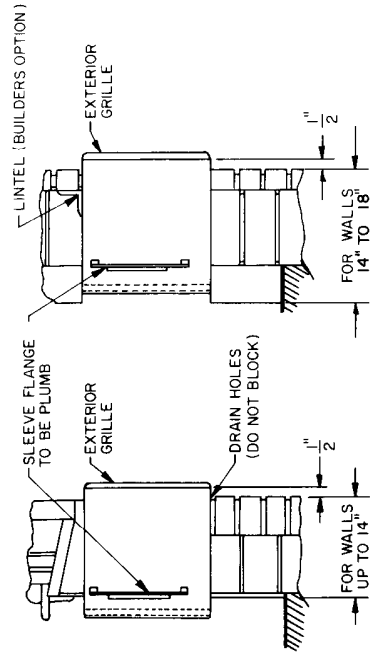

FIG. 4
2. FOR WALLS 14" THICK OR LESS, TOTAL THICKNESS, SET SLEEVE INTO MASONRY SO THAT REAR BOTTOM EDGE EXTENDS BEYOND EXTERIOR BUILDING LINE, APPROXIMATELY 1/2" AS SHOWN ON FIG. 4.